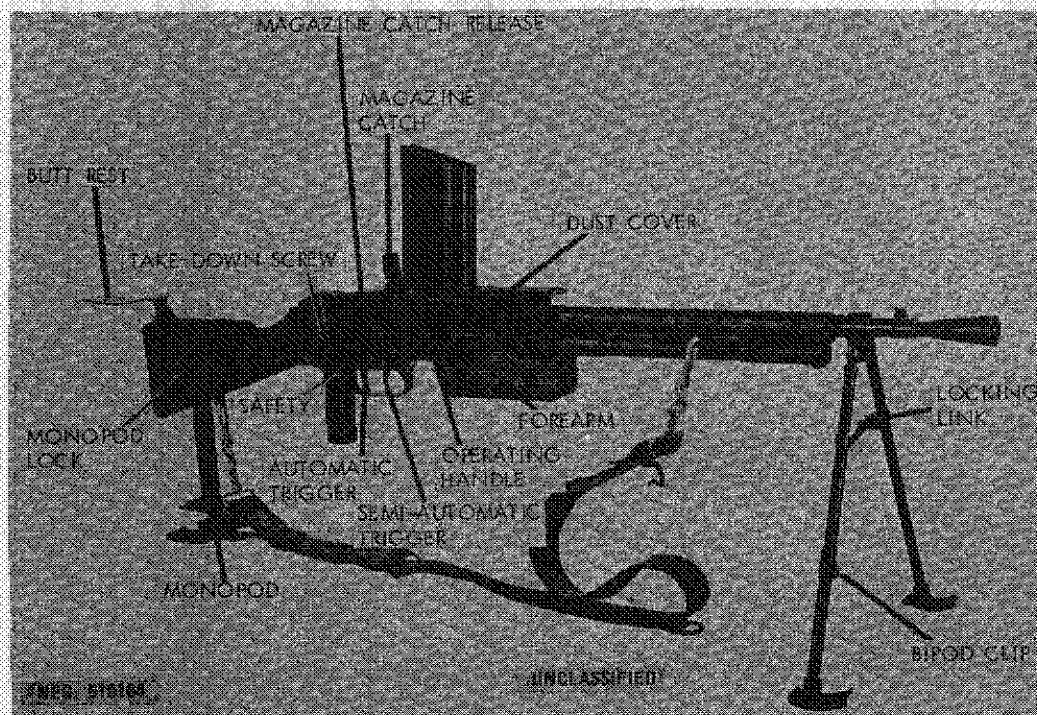
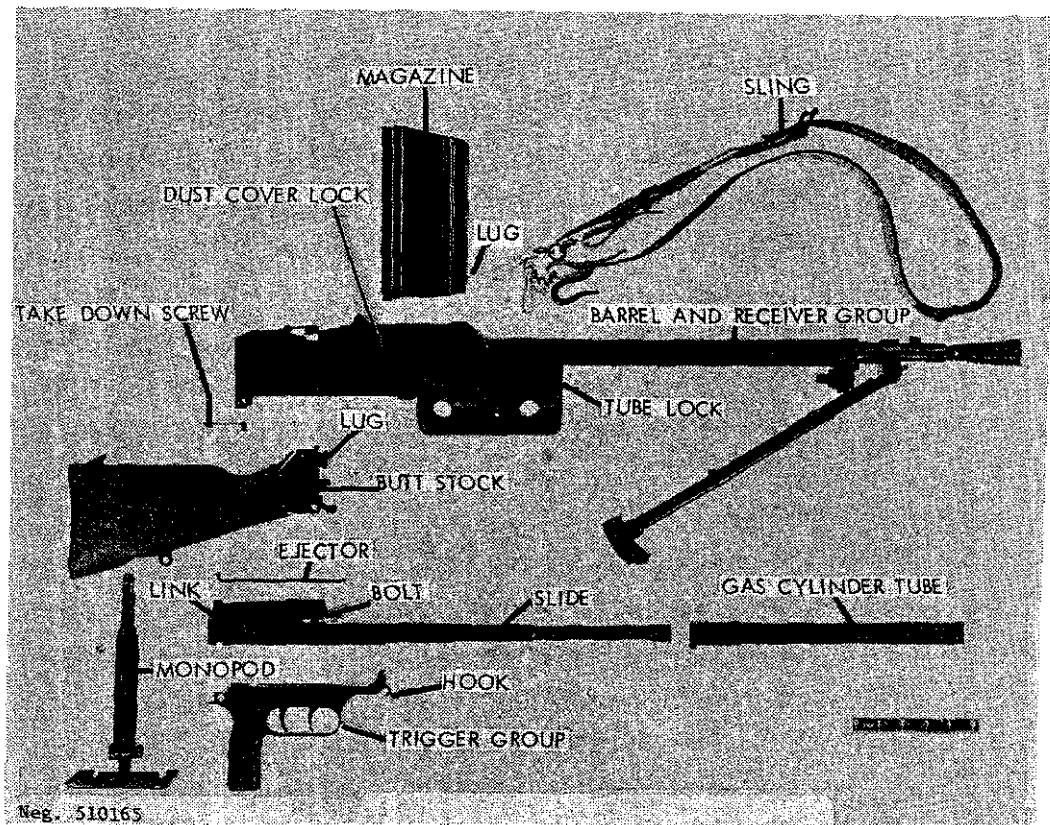

Figure 165. French Model 24/29 light machinegun.
Figure 166. M24/29 disassembled.
The 7.5-mm Model 24/29 (fig 165) was a standard pre-World War II French Army weapon that was put back into production after the war. It is an excellent weapon of simple design and unsurpassed ease of maintenance. Although the French refer to this weapon as an automatic rifle, it is a light machinegun by contemporary standards. The Model 24/29 is sometimes referred to as the Chatellerault machinegun. Its double triggers, large wood forearm, and multiperforated conical flash hider are prime recognition features. There is a large vertical hole in the forearm; this is to adapt the gun to an anti-aircraft or vehicular post mount. Although obsolescent in the French Army, the Model 24/29 is still in widespread use in many former French possessions. The Model 24/29 fires the 7.5x54-mm cartridge (sec V).
c. Open the dust cover by turning the dust cover lock (fig 166) upward, then pull the magazine catch release (fig 165) rearward; this will allow the magazine catch to spring up into position. Fold the dust cover forward over the barrel. If necessary, the rear sight aperture can be swung to the left for use. Set the sight to the desired range by depressing the locks and moving the slide along the ramp until the top of the slide is aligned with the figure that corresponds to the range in hundreds of meters. Unfold the butt rest if desired.
d. Hold the magazine, tilted forward, and mate the lug (fig 166) on its front side with the recess in the magazine well. Rotate the magazine rearward until the magazine catch snaps into place. Pull the operating handle fully rearward; then push it forward. CAUTION: The gun is now ready to fire. If desired, render the gun safe by moving the safety (fig 165) downward.
f. When the last cartridge in the magazine is fired, the bolt will remain open. Press the magazine catch (fig 165) toward the magazine and, at the same time, tip the magazine forward out of the gun.
g. To clear the M24/29, rotate the safety downward, remove the magazine (para f above), and pull the bolt fully rearward. Inspect to insure that no cartridges are present. Press the safety upward, hold back on the operating handle, press one of the triggers, and ease the operating mechanism forward. Swing the dust cover (fig 165) to the rear over the magazine opening; then
h. Fold the bipod by pressing the center of the locking link upward; then fold the legs together. Swing them backward and secure them with the bipod clip (fig 165). The bipod can be stowed under or alongside the barrel.
b. Unscrew the takedown screw (fig 165) until it can be pulled out of its hole. Tilt the butt up and off the receiver. The trigger group will swing down.
d. The driving spring can now be pulled rearward and removed from the slide (fig 166).
e. Pull the operating handle rearward. This will move the bolt and slide to the rear where they can be grasped and pulled out of the receiver. Turn the tube lock (fig 166) to the vertical position and swing the rear end of the gas cylinder tube to the right; after it disengages from the receiver, it can be removed.
h. Place the bolt onto the slide, position the link (fig 166), and replace the link pin.
j. Push the bolt as far forward as possible on the slide; then insert the bolt and slide into the receiver, insuring that the piston enters the gas cylinder tube. Tip the muzzle down so that the bolt and slide will go fully forward. Replace the ejector (fig 166) into its recess.
k. Insert the driving spring and guide into the slide, guide to the rear. Mate the hook (fig 166) on the trigger group with its cross pin in the receiver; then swing the trigger group up into place.
l. Hold the stock at an upward angle to the receiver and fit its lug (fig 166) into its recess in the inner top of the receiver. Hold the trigger group up in place and swing the stock down until it seats against the receiver. Insert the takedown screw, from the right, and screw it fully home. Close the dust covers, fold the aperture to the right, and press the magazine catch down until it is locked in place.